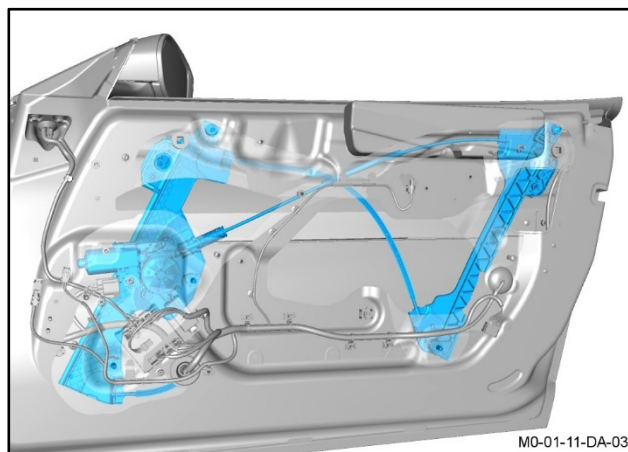

Figure 16
26. Remove the regulator assembly (refer to Figure 16).